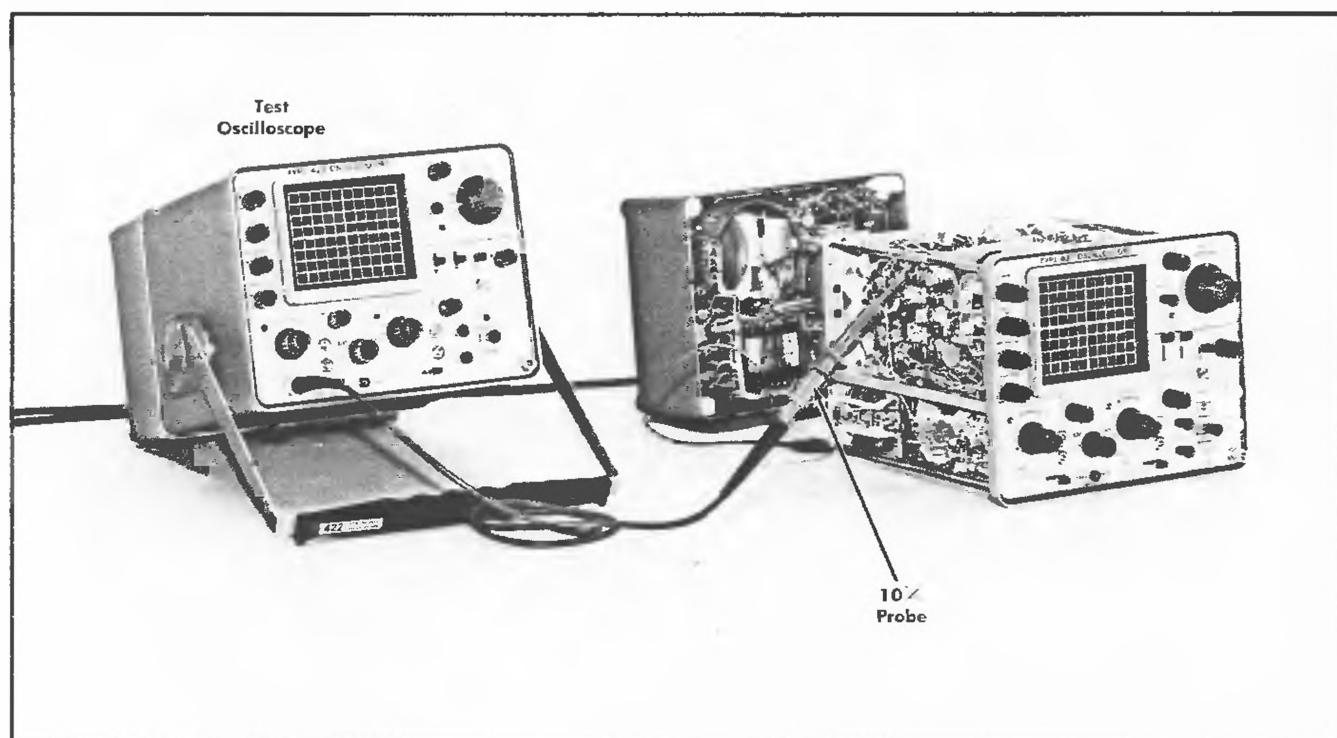

Fig. 6-15. Test equipment setup for step 11.
- Test equipment setup is shown in Fig. 6-15.